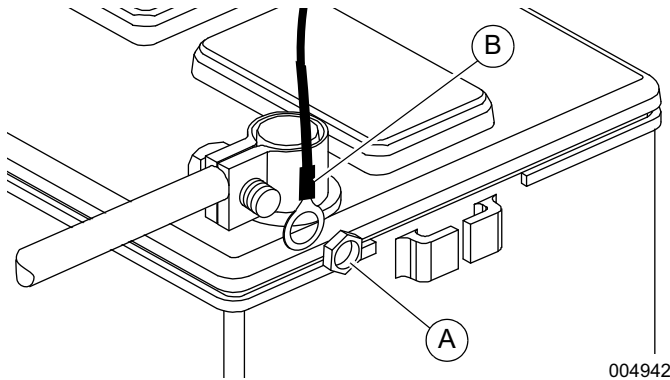

Figure 2. Attach Harness Power Wires
3. See **Figure 2**. Loosen and remove nuts (A) from positive (+) battery terminal and negative (-) battery terminal screws on the battery cables. Slide harness power wires (B) over battery terminal screws and replace nuts. Tighten securely.